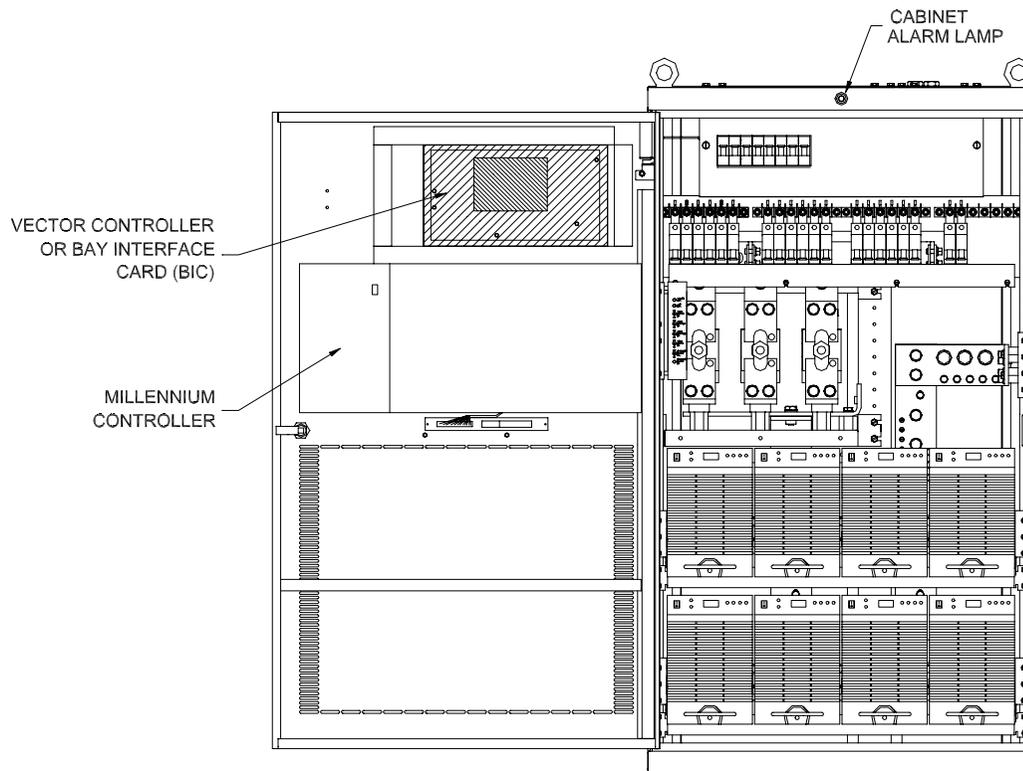

Figure 13-1: Location of Cabinet Alarm
1. Locate the plant Galaxy controller. The controller is typically located in the cabinet identified as BAY ONE. Because a trouble condition exists, the red alarm on the top of the cabinet will be illuminated. See Figure 13-1.